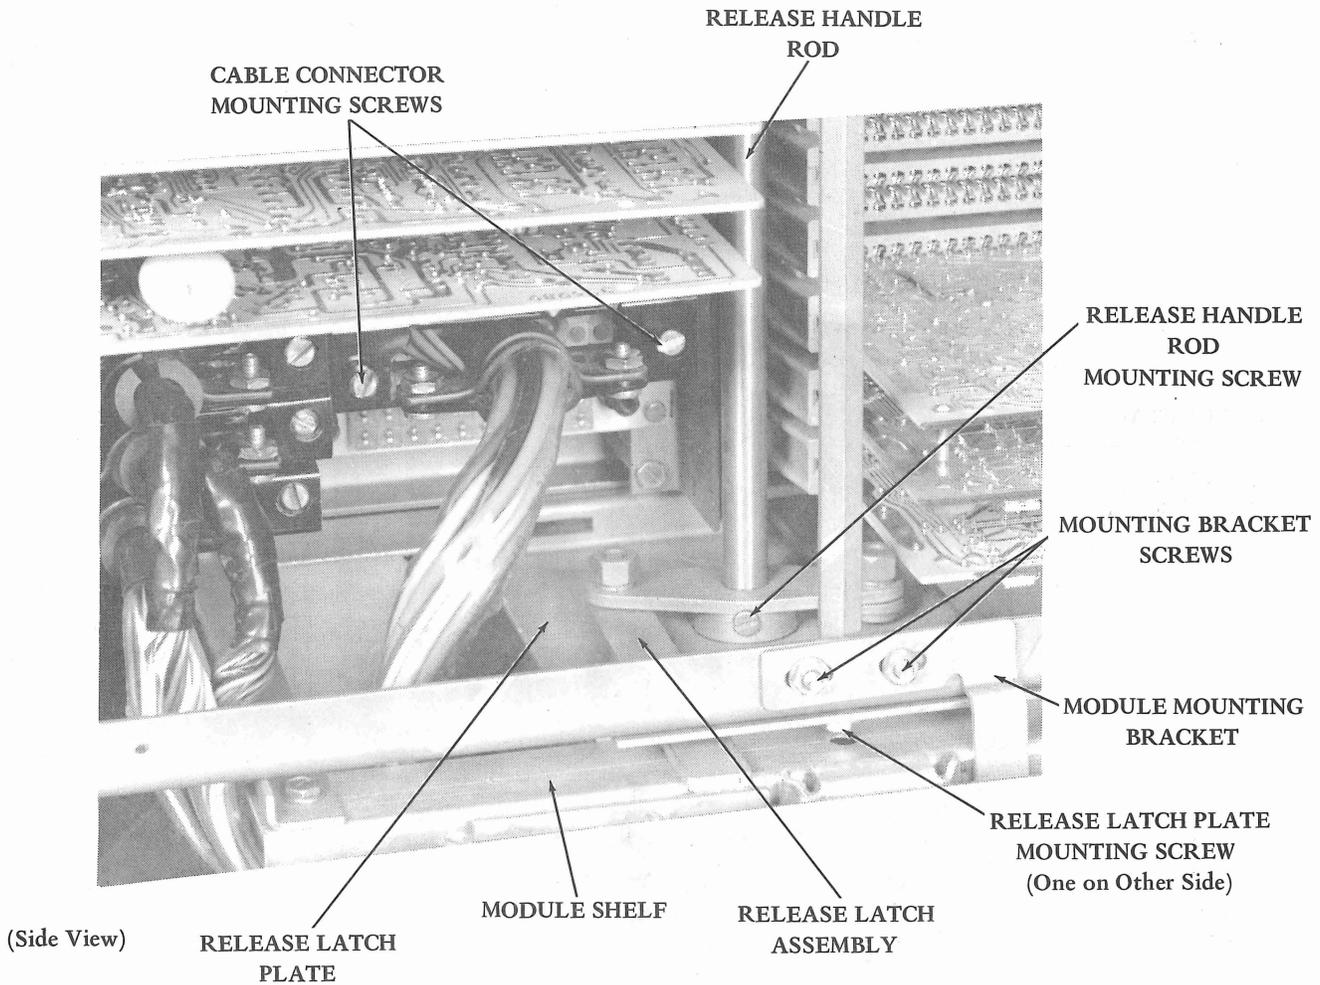

Figure 4 - Module Mounting Hardware
(a) Loosen the two screws that hold each cable connector in place (Figure 4), and remove the connectors.
(b) Remove the two screws and flat washers that secure the module mounting bracket to the module shelf (Figures 4 and 5).
- (b) Remove the nut, lockwasher, and screw that secures the release handle rod to the lower latch assembly (Figure 4).
- (d) Remove the screw, lockwasher, and flat washer that secure each side of the release latch plate to the module (Figure 4). Remove the plate.
- (e) Remove the screws, flat washers, lockwashers, and nuts from the two module mounting brackets (Figure 4). Remove the brackets from the module.